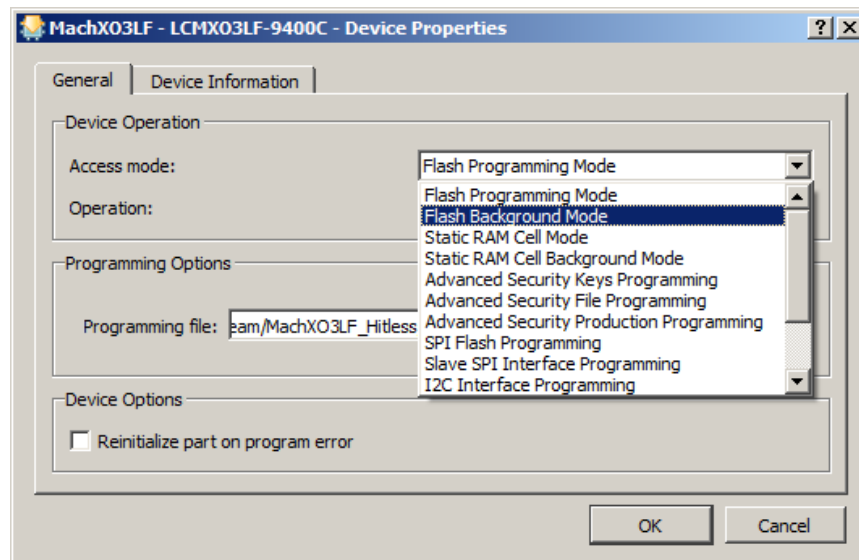

Figure 6.7. Access Mode Options
2. From the **Access Mode** drop-down list select **Flash Background Mode** as shown in Figure 6.7.